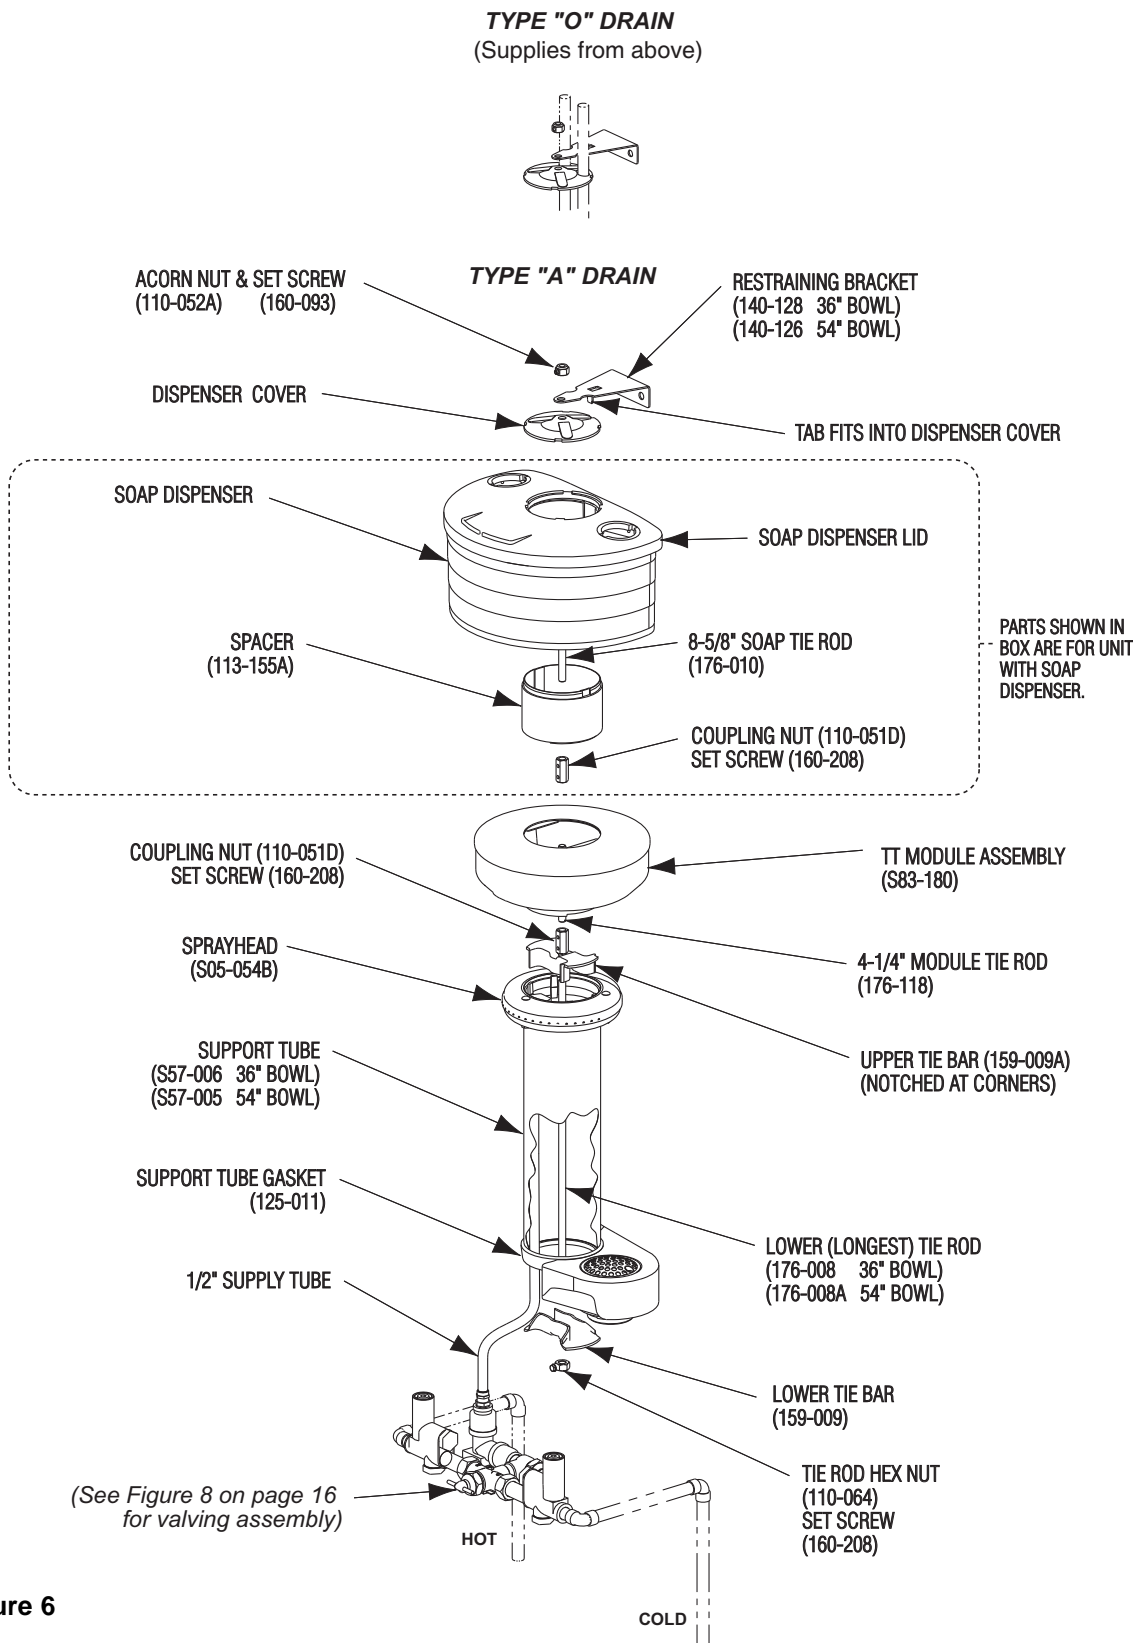

Figure 6
1. Install hemmed end (not sharp end) of support tube (welded seam toward wall) with gasket onto bowl as shown in Figure 6 on page 13.
3. Place sprayhead with 1/2" tubing onto support tube as shown in Figure 6. Run tubing down through support tube. *Make sure spray holes point away from the wall.*
4. Assemble the lower tie rod (the longer threaded rod), upper tie bar (notched at corners), lower tie bar, tie rod nut, and coupling nut, then attach the 4-1/4" tie rod to coupling nut as shown in Figure 6. Upper tie bar must be parallel to wall.
- 7a. **FOR UNITS WITH SOAP OPTION:** Install the spacer, soap dispenser and dispenser cover and restraining bracket using the coupling nut, third tie rod (8-5/8" long) and second coupling nut as shown (see Figure 6). Secure with acorn nut and socket head set screw. The tab on the restraining bracket should fit in a notch in the dispenser cover (see Figure 6).
- 7b. **FOR UNITS WITHOUT SOAP OPTION:** Secure module cover and dispenser cover and restraining bracket with acorn nut and socket head set screw. The tab on the restraining bracket should fit in a notch in the dispenser cover (see Figure 6).